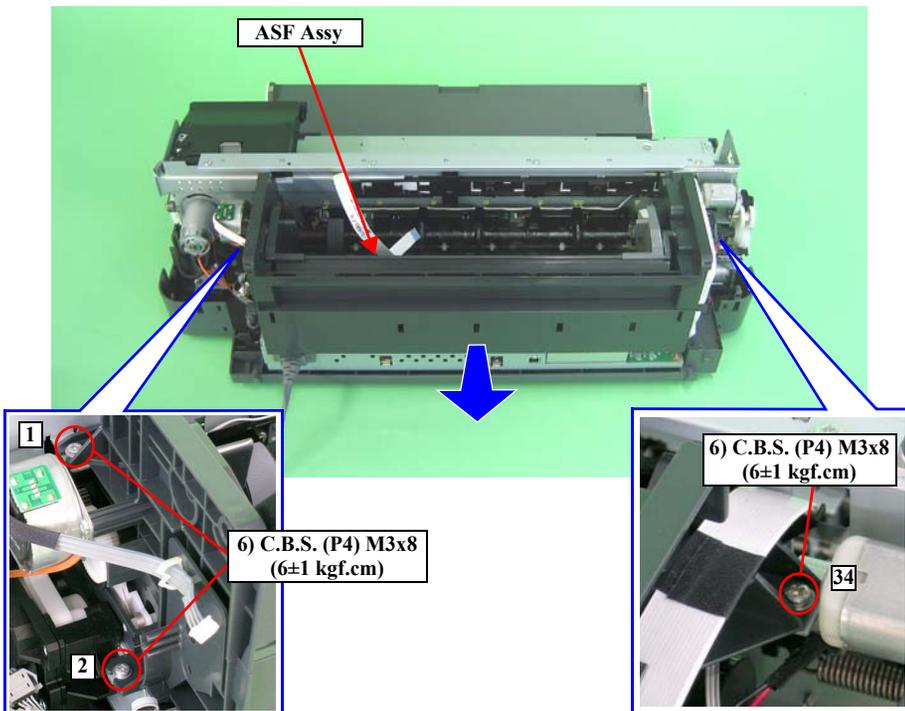

Figure 3-87. Removing the ASF Assy
- Tighten the screws in the order shown in Figure 3-87.